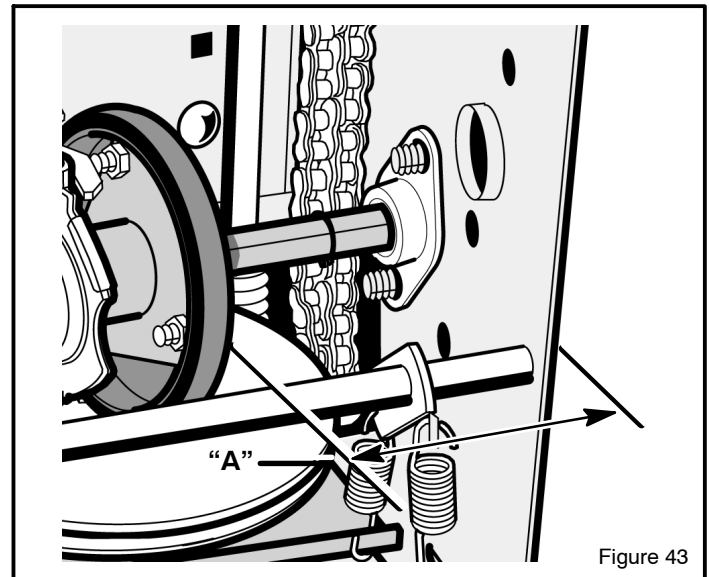

Figure 43
6. Note the position of the **friction wheel** (see Figure 43). The correct distance "**A**" from the right side of the **friction wheel** to the outside of the motorbox is as follows:
3. Move the **friction wheel** to the correct position (see Figure 43).